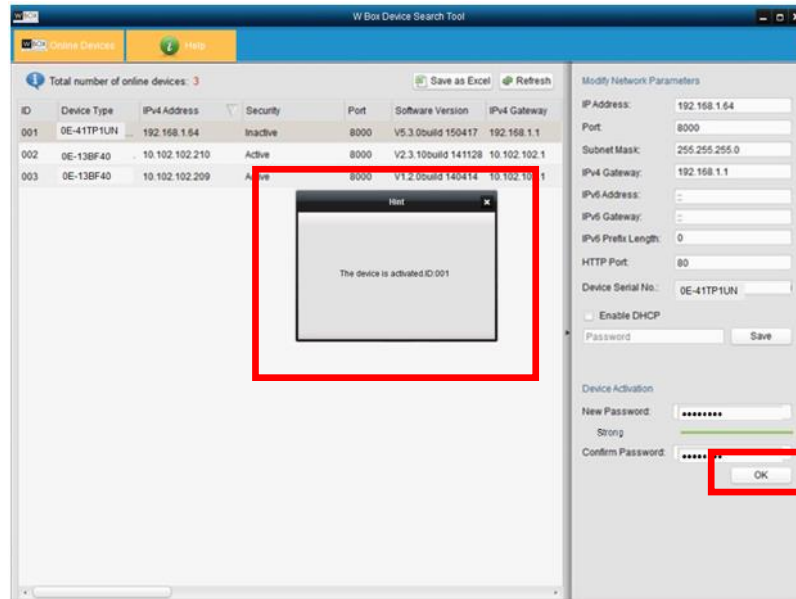

Figure 7 Confirmation Window
4. After the password has been entered and confirmed, press the **OK** button to display the pop-up confirmation window (Figure 7).